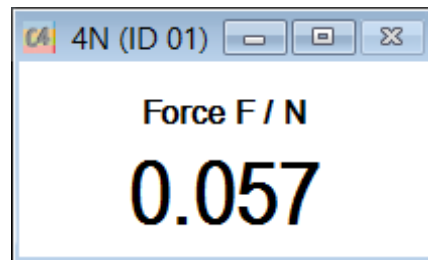
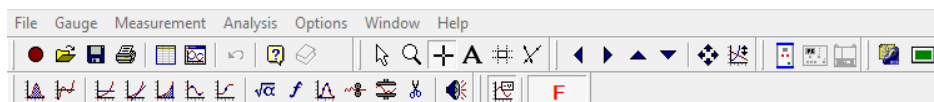

Figure 5.11: Measured force window.
Figure 5.12: Measure software toolbars.
The centripetal force measured by the force sensor (1) depends on the angular velocity of the rotating mass. As shown in Figure 5.12, the force sensor can't measure any force exceeding 4. That is why, on adjusting the motor angular velocity, one should check the measured force window shown in Figure 5.11 on the measure software to make sure that the force doesn't exceed 4N for the adjusted angular velocity of the motor.
- 5- Start recording the measured force in the measure software by clicking the “Record” button (●) found in the software toolbar shown in Figure 5.12. The measured values by the force sensor are now being recorded.